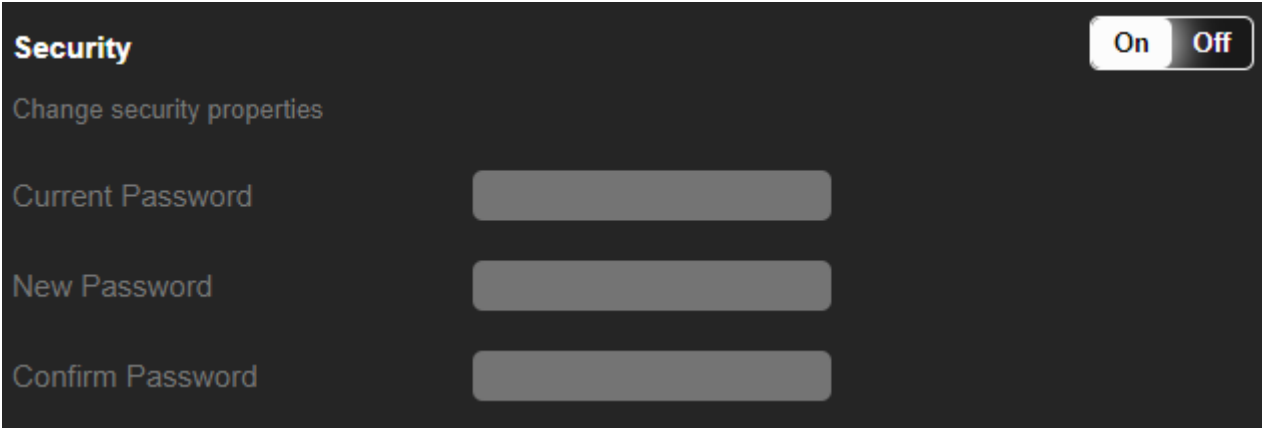

Figure 59: General Settings Tab – Security
2. Click **On**. The full security page appears (see Figure 59).
1. In the Navigation pane, click **Settings**. The Settings page appears, displaying the Security area (see Figure 59).